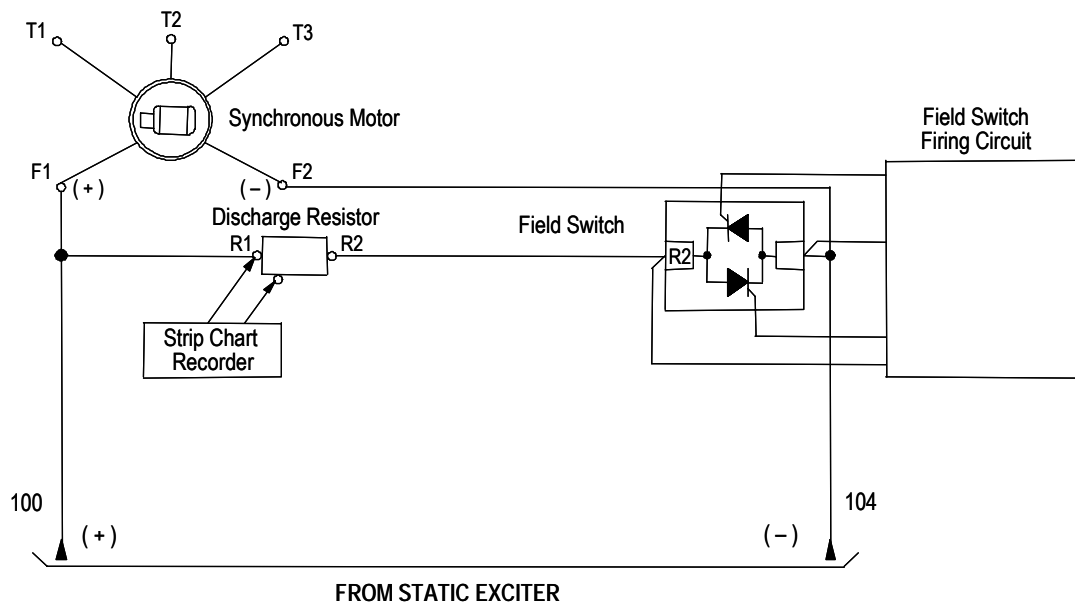

Figure 3.1 – Final Connections to Discharge Resistor
- 3) Using a resistance measuring device accurate to at least one decimal place, measure the resistance of point R1 and R3 to obtain a resistance of 1Ω (refer to Figure 3.1). Ensure that there are no parallel resistances while taking this measurement.